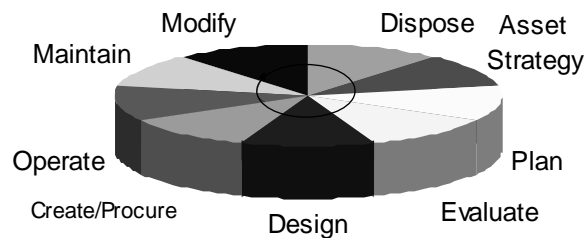

Figure 1-1. Optimizing Life-Cycle Investment Value
- ❖ Maintenance is one step in a nine-step asset management process, described in Fig. 1.1.